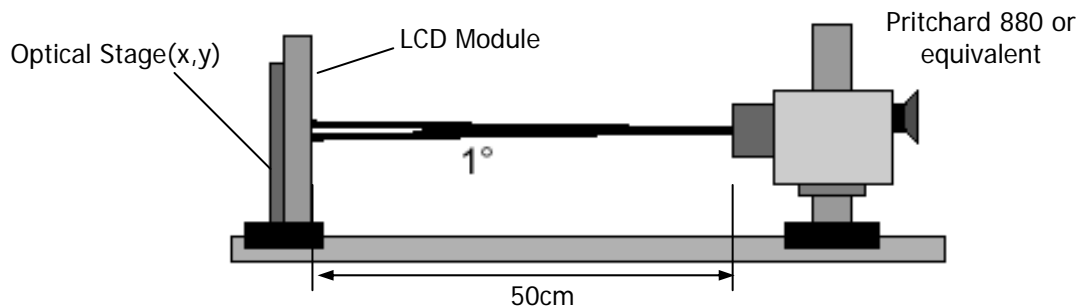

FIG. 6 Optical Characteristic Measurement Equipment and Method
2. **Surface luminance** is luminance value at No.1 point across the LCD surface 50cm from the surface with all pixels displaying white. For more information see FIG 6.